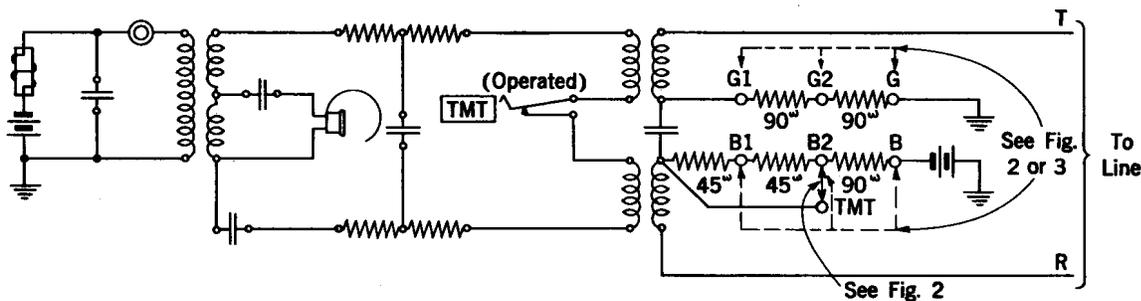

Fig. 14 - Transmission Test
5.32 To make a transmission test with a repairman or a subscriber at a station, operate the RCCI and TMT keys. The former key supplies battery and ground to the line and the latter cuts in a network consisting of series resistances and a bridged condenser between the repeating coil and the induction coil to increase the transmission loss so that the transmission level is about equal to that received by the subscriber on a toll connection. See Fig. 14.